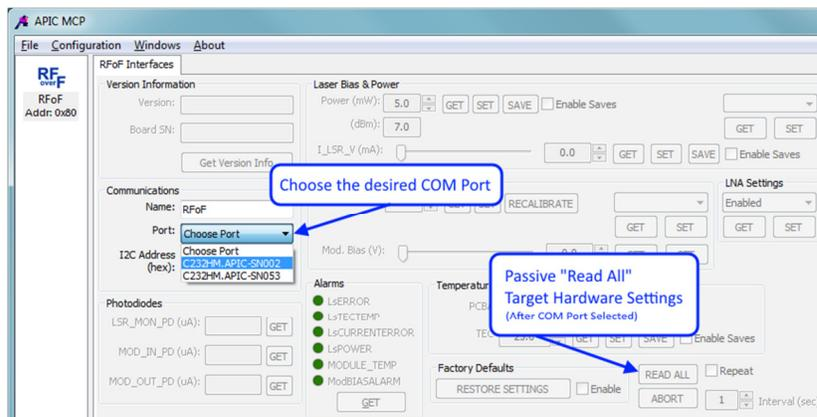

Figure 2 - Selecting Desired COM Interface
5. Select the appropriate COM Port to use for communication with the target as illustrated in Figure 2.
6. You are now able to interact with the Target Hardware. A passive read of all current settings can be performed by using the “Read All” button in the bottom right of the control panel (see Figure 2).